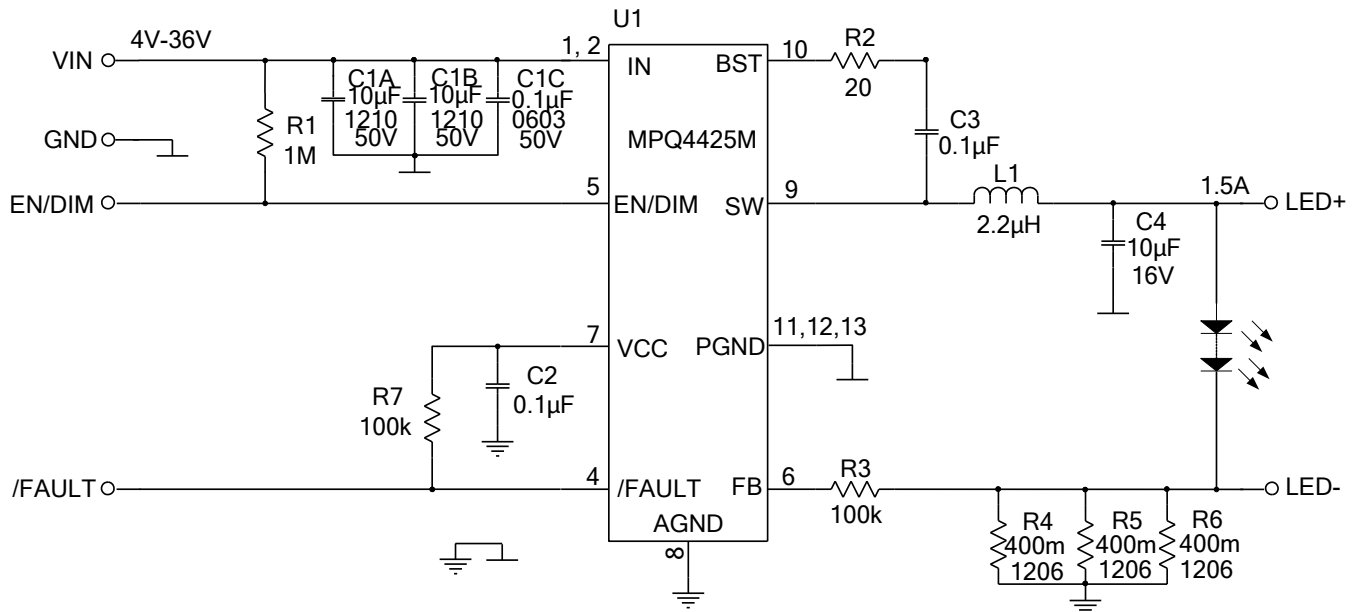

Figure 8: $I_o=1.5A$ Application Circuit
- 7) The recommended layout is based on Figure 8.